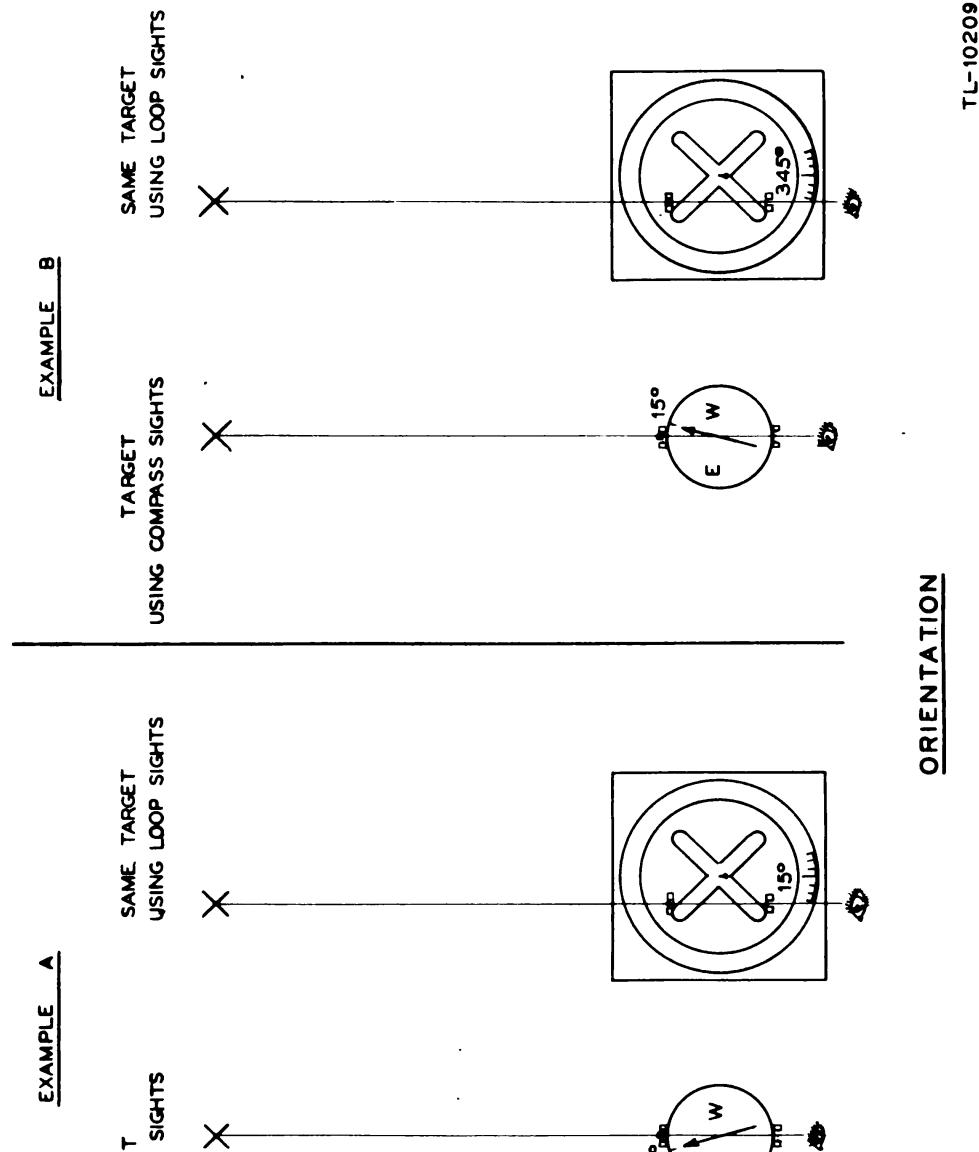

Figure 9. Radio Receiver BC-973-A or BC-1003-A, orientation.
w. Keeping the object in the loop sights, rotate the azimuth scale until the angle indicated on the white scale by the white index line on the front of the receiver cover is the same as the compass reading. For example, if the bearing of the object indicated by the compass is north 15° east, then the angle indicated on the white scale on the receiver shall also be 15° (example A in fig. 9). If the compass bearing is north 15° west, then the reading on the white scale shall be 345° (example B in fig. 9).